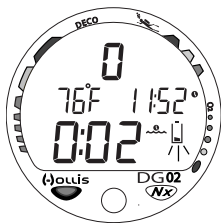

Fig. 9 -Low Battery Condition
- When 75 % of the rated power has been consumed, the lower bar of the Battery icon (only segment) will be displayed, and the shell of the icon will flash once per second (Fig. 9) as a warning that the Battery is to be replaced prior to conducting any further dives.